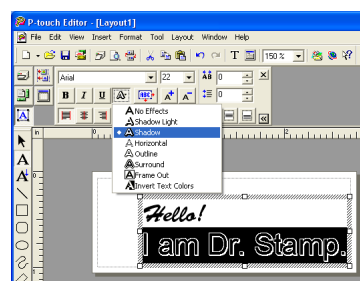

figure 6
- 2 Select the desired style effect from the Text Properties (see figure 6).